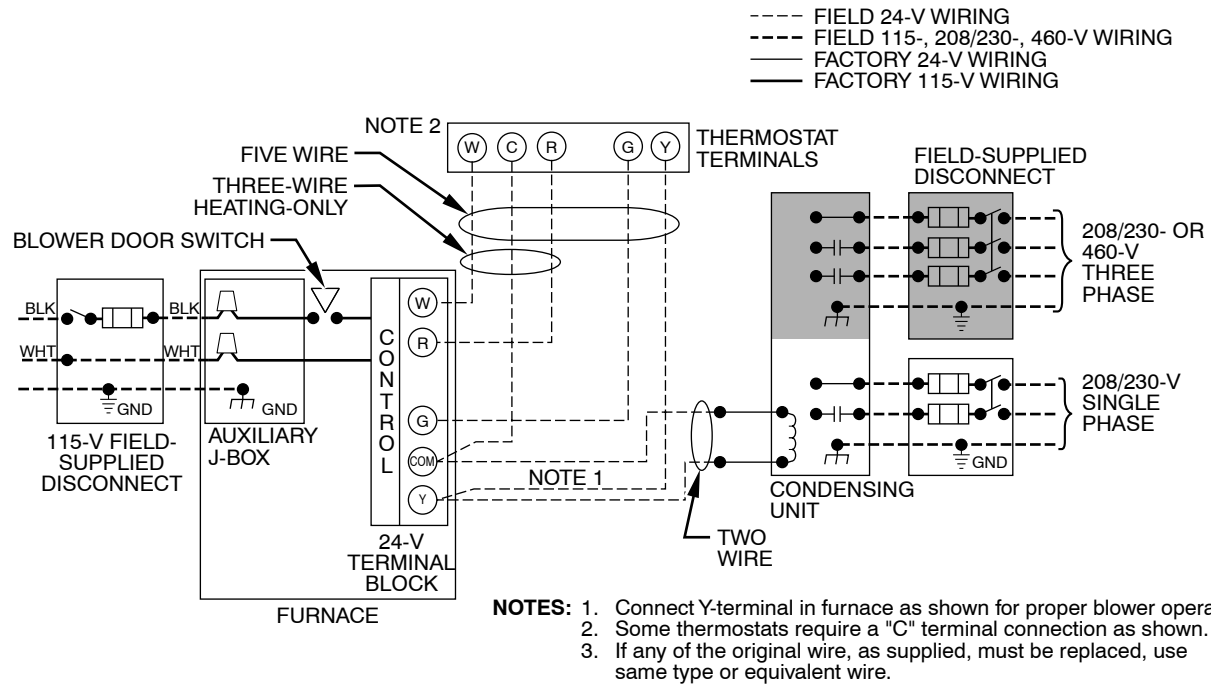
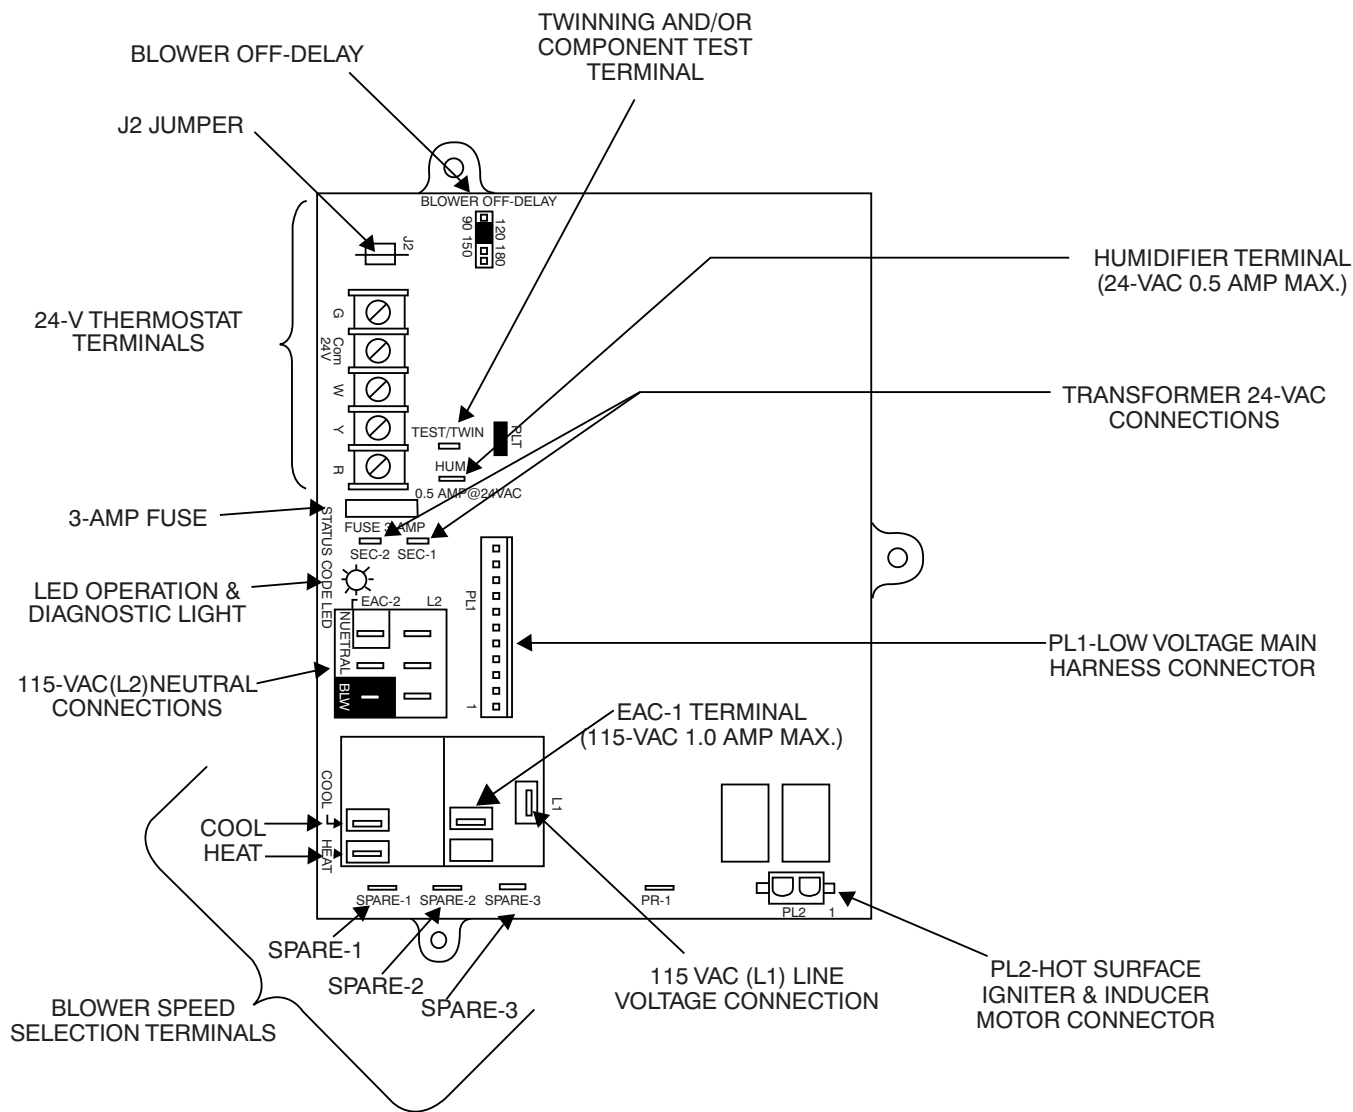

Fig. 35 - Typical Single-Stage Wiring Diagram
Fig. 36 - Example of Single Stage Furnace Control
7. Connect field power and neutral leads to furnace power leads as shown in Fig. 35.
6. Connect power cord power and neutral leads to furnace power leads as shown in Fig. 35.
5. Connect field power and neutral leads to furnace power leads as shown in Fig. 35.
Make field 24-v connections at the 24-v terminal strip. See Fig. 36. Connect terminal Y as shown in Fig. 35 for proper cooling operation. Use only AWG No. 18, color-coded, copper thermostat wire.
The 24-v circuit contains an automotive-type, 3-amp. fuse located on the control. Any direct shorts during installation, service, or maintenance could cause this fuse to blow. If fuse replacement is required, use ONLY a 3-amp. fuse of identical size. See Fig. 36.